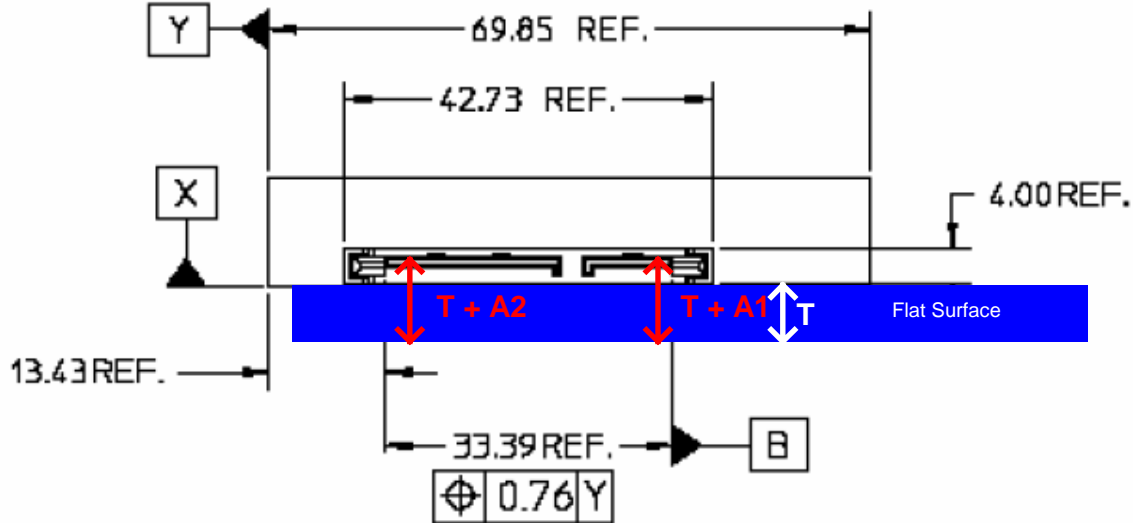

Figure 18
1. Place the drive on a flat surface, with the back surface of the drive (i.e. the “end of the device factor”) lined up with the edge of the flat surface, see Figure 18.
3. At the rightmost part of the plug (see Figure 18), measure the distance from the top of the tongue of the SATA plug to the bottom of the flat surface. Record this value as  $T+A1$ .
4. At the leftmost part of the plug (see Figure 18), measure the distance from the top of the tongue of the SATA plug to the bottom of the flat surface. Record this value as  $T+A2$ .